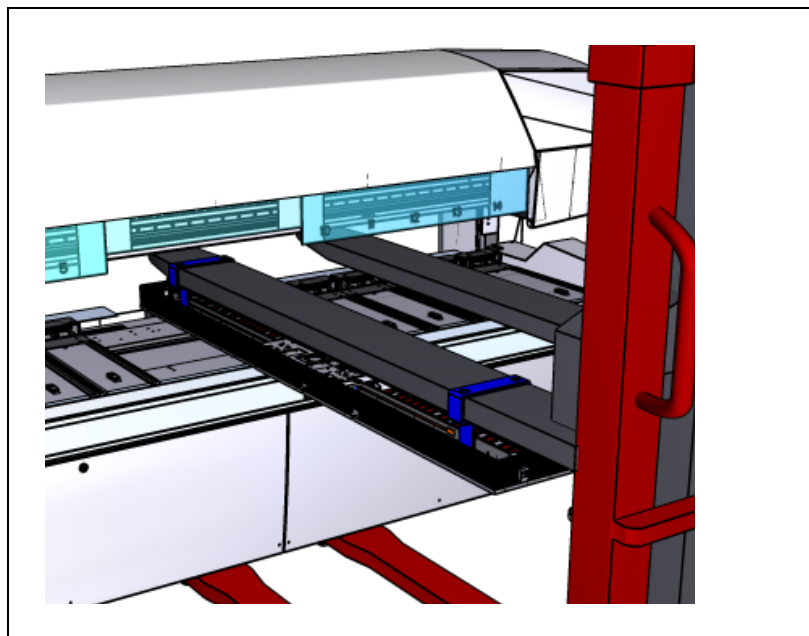

Figure 2-13. Lift with high pallet lifter.
8. If the Y module is to be lifted with a fork lift or high pallet lifter then insert one of the forks in the two Y-module lifting brackets as shown in Figure 2-13).